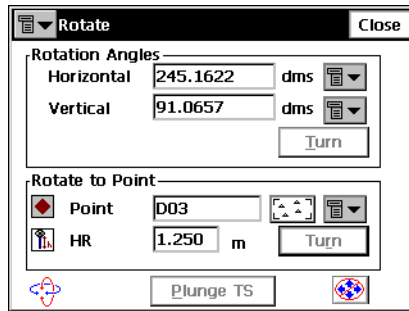

Figure 6-41. Rotate
9. To turn the Total Station, tap the **Turn** button and enter the desired horizontal and vertical angles, or the direction point in the *Rotate* screen. tap **Turn** in the corresponding field to perform the rotation (Figure 6-41 on page 6-36). Tap **Close** to return to the *Auto Topo* screen.